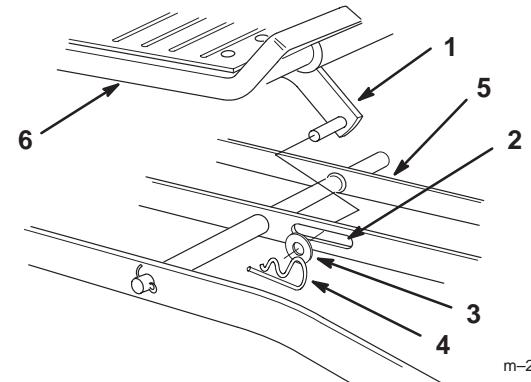

Figure 4
6. Slide the mower under the tractor from the right side and slide the attachment lift between the center and left side level bar (Fig. 4).
8. Place the attachment lift pin into the slot in the center lever bar and secure it with a washer (3/4 inch) and a hairpin cotter (Fig. 4).